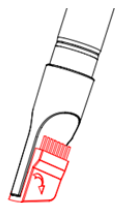

Fig.10
1. As in fig. 10, you can use the compressed brush in the corner and the aperture.